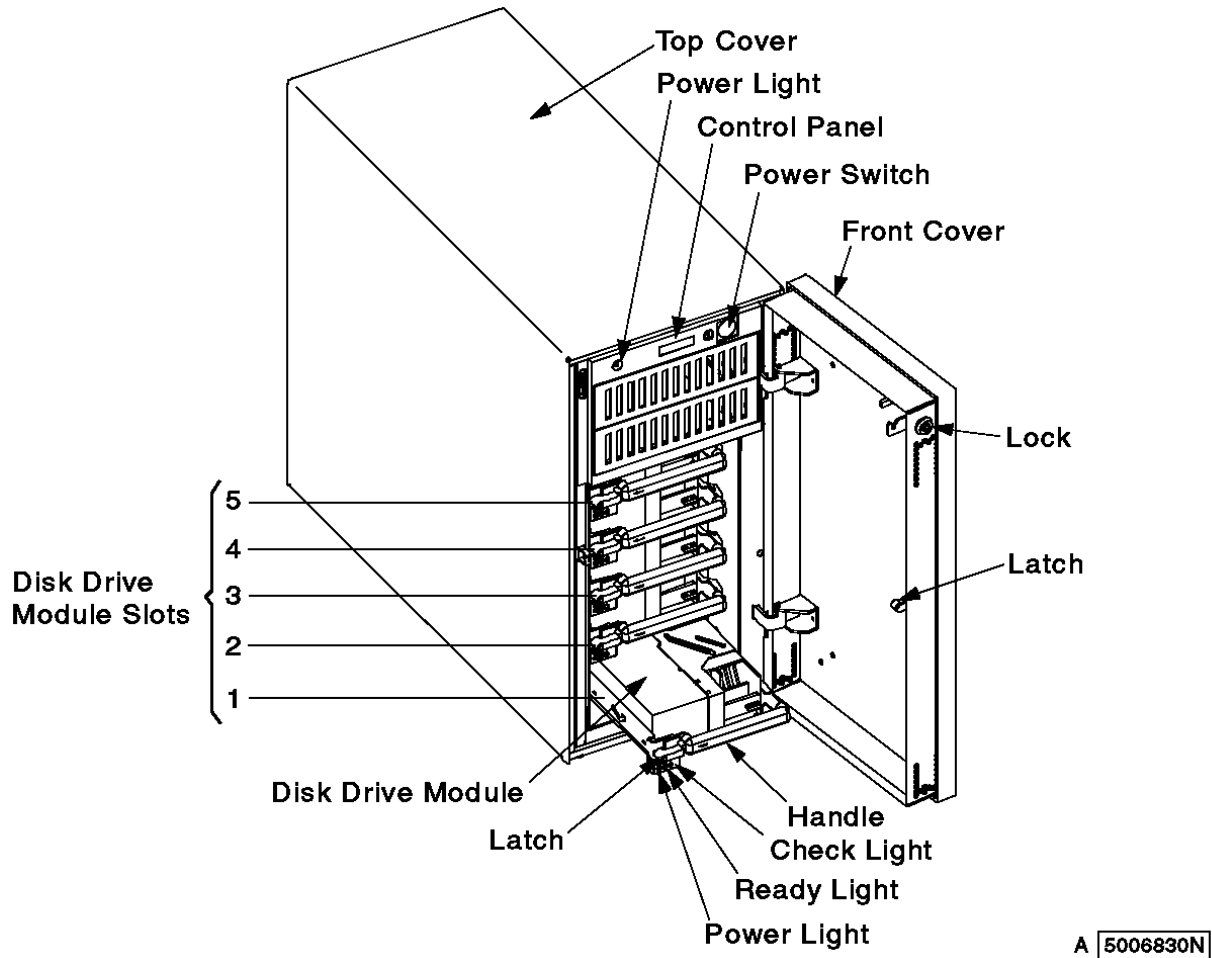

Figure 4. The 3527 Storage Unit with the Front Cover Open
1. Open the front cover (Figure 4).